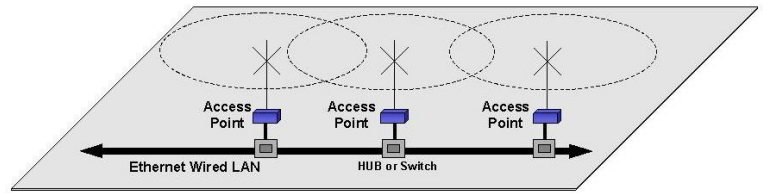

Figure 1: Conventional Access Point Diagram
With a conventional IEEE 802.11 (Wi-Fi) Access Point (AP) network, all of the APs have to be interfaced to a common network either by hardwire, see Figure 1, or a separate, dedicated RF backbone. The Horizon radios can create this RF backbone, bridge Ethernet networks connected to the wired Ethernet port and provide the wireless canopy for mobile clients simultaneously.